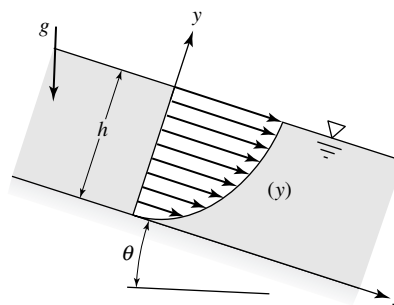

Fig. P4.36
**4.36** A constant-thickness film of viscous liquid flows in laminar motion down a plate inclined at angle  $\theta$ , as in Fig. P4.36. The velocity profile is